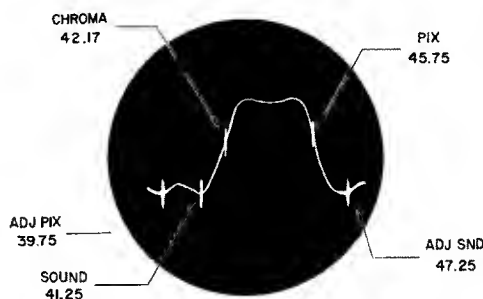

Figure 5.5 Typical I-F Response Curve with Markers Added
- 5.3.5 Depending on the alignment functions desired, the appropriate markers are selected for reference. For example Figure 5.5 is a typical marker display for i-f alignment.